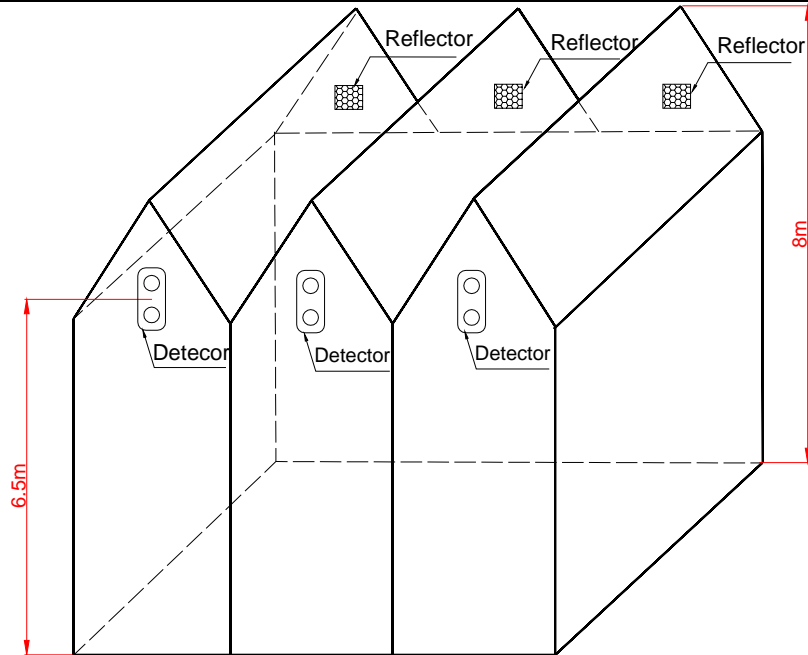

Fig. 7 Mounting
- 4) For gable structure with space height about 8m, the detector and reflector should be mounted on the two facing walls 1.5m from the gabled girder, see Fig. 7.